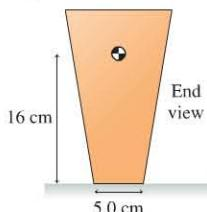

FIGURE P8.13
13. **I** A magazine rack has a center of gravity 16 cm above the floor, as shown in Figure P8.13. Through what maximum angle, in degrees, can the rack be tilted without falling over?